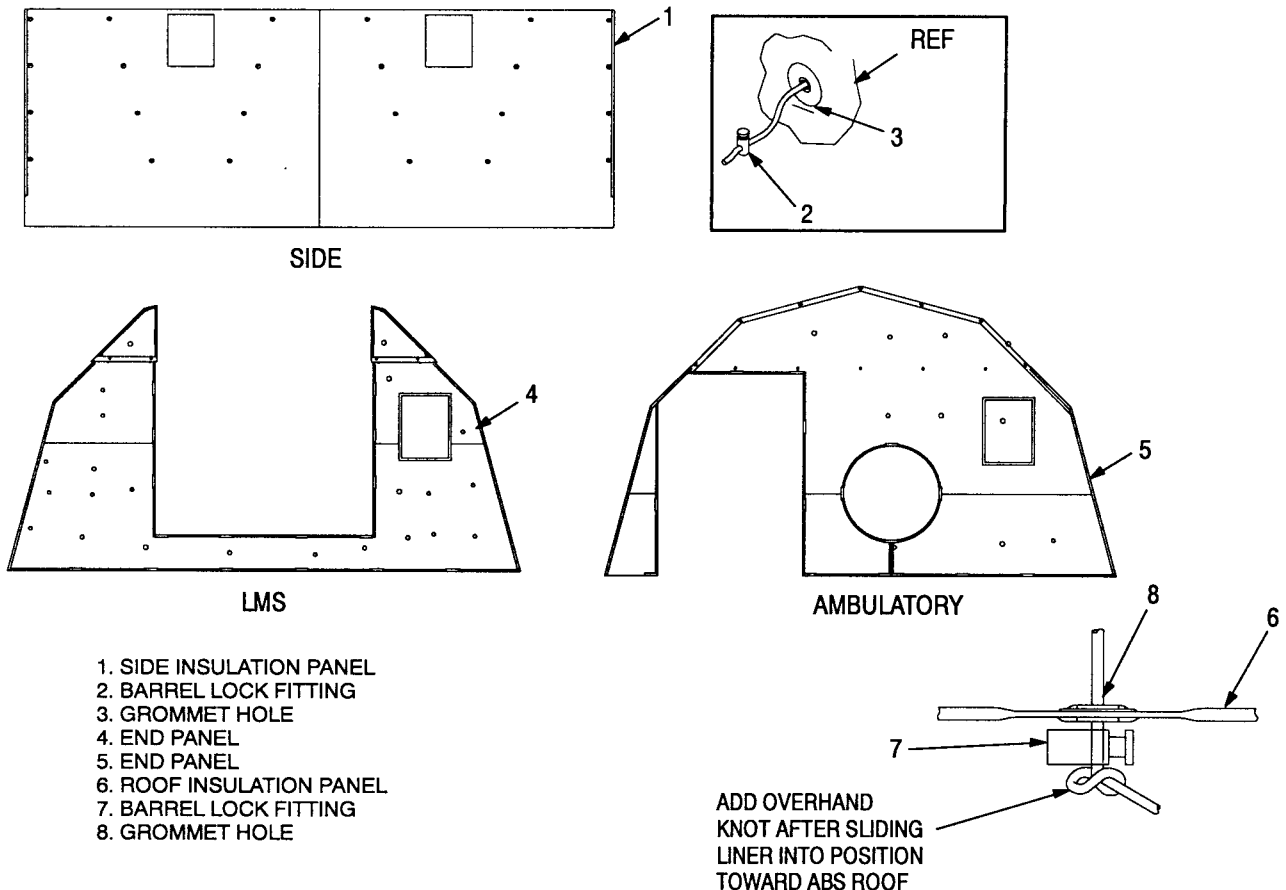

Figure 2-58. ABS Insulation Panels
- (1) Remove side insulation panel (1, Figure 2-58) by pushing cord and barrel lock fittings (2) attached to the bottom of the four ties on each air beam through the mating grommet holes (3) on side insulation panel (1). Disengage fastener hook and fastener loop tape across top and sides of insulation panel (1). Remove insulation panel (1) from ABS.
- (2) Disengage fastener hook and fastener loop tape across top and sides of end panel (4). Remove end panel (4) from ABS.
- (3) Disengage fastener hook and fastener loop tape across top and sides of end panel (5). Remove end panel (5) from ABS.
- (4) Remove four roof insulation panels (6) by untying knots and pushing cord and barrel lock fittings (7) through the mating grommet holes (8) on roof insulation panels (6). Remove roof insulation panels (6) from ABS.
b. Installation (Refer to Figure 2-58)